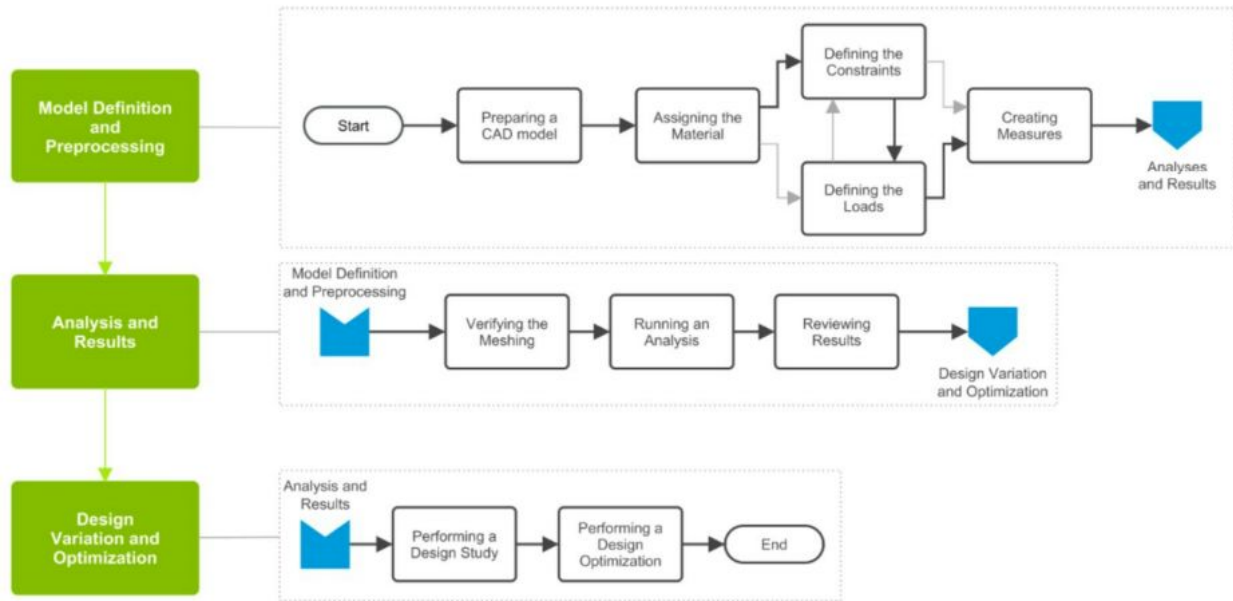

Figure 5 ProE FEA Procedure
The FEA procedures in ProE are shown in Fig. 5. The entire procedures include three main processes: (1) Preprocess to build a FE model. This includes identify geometry, loads and constraints. The user need divide the geometry into simpler parts and create a mesh. (2) Performing and running analysis and reviewing results. (3) Varying parameters and optimizing the design.